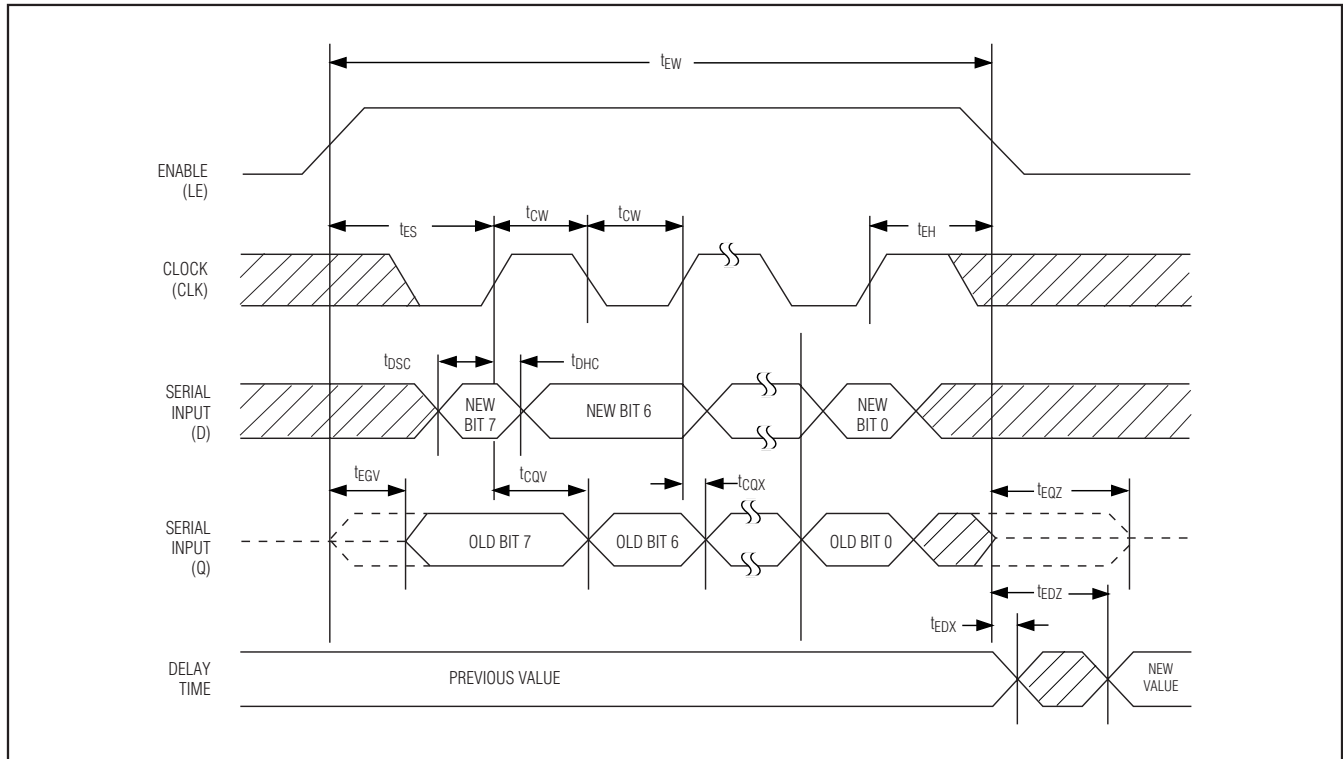

Figure 6. Serial Interface Timing Diagram
The 3-wire serial interface is enabled by connecting $\bar{P}/S$ to V_{CC} . Serial mode operates similar to a shift register. When LE is set at a high logic level, it enables the register and CLK clocks the data, D, into the register one bit at a time starting with the most significant bit. After all 8 bits are shifted into the DS1123L, LE is pulled low to end the data transfer and activate the new value. A settling time (t_{EDV}) is required after LE is pulled low before the signal delay meets its specified accuracy. A timing diagram for the serial interface is shown in Figure 6. The 3-wire interface also has an output (Q) that can be used to cascade multiple 3-wire devices, and it can be used to read the current value of the devices on the bus.